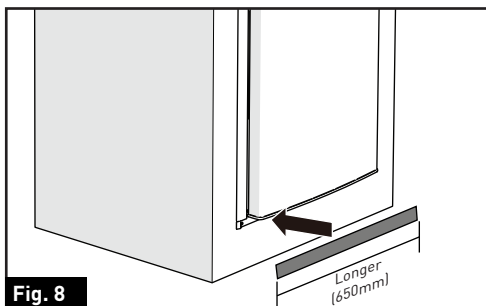

Fig. 8
5. Remove the protective film from the trim strip cover. Install the shorter trim strip on the top and the longer one at the bottom of the refrigerator. (Fig. 7 and Fig 8)